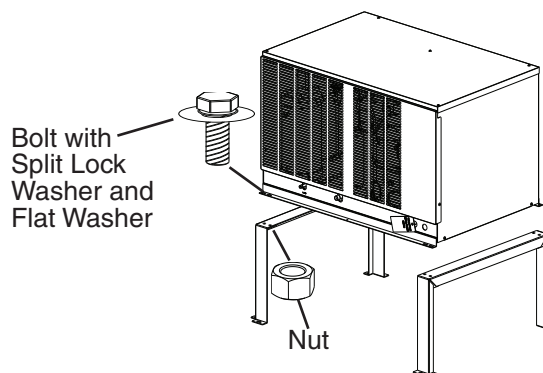

Fig. 8
- 1) Secure the legs to the remote condensing unit with the 8 bolts and nuts provided. See Fig. 8.